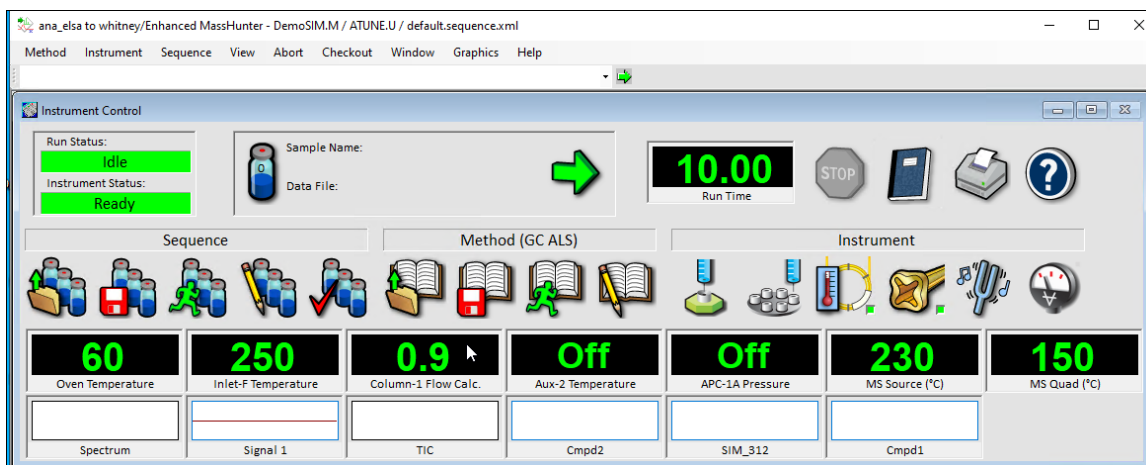

Figure 26 Arranging monitors
- 4 You can select **Window > Arrange Monitors** to automatically arrange the monitors at any time, or click and drag each monitor to the desired position. (See Figure 26.)